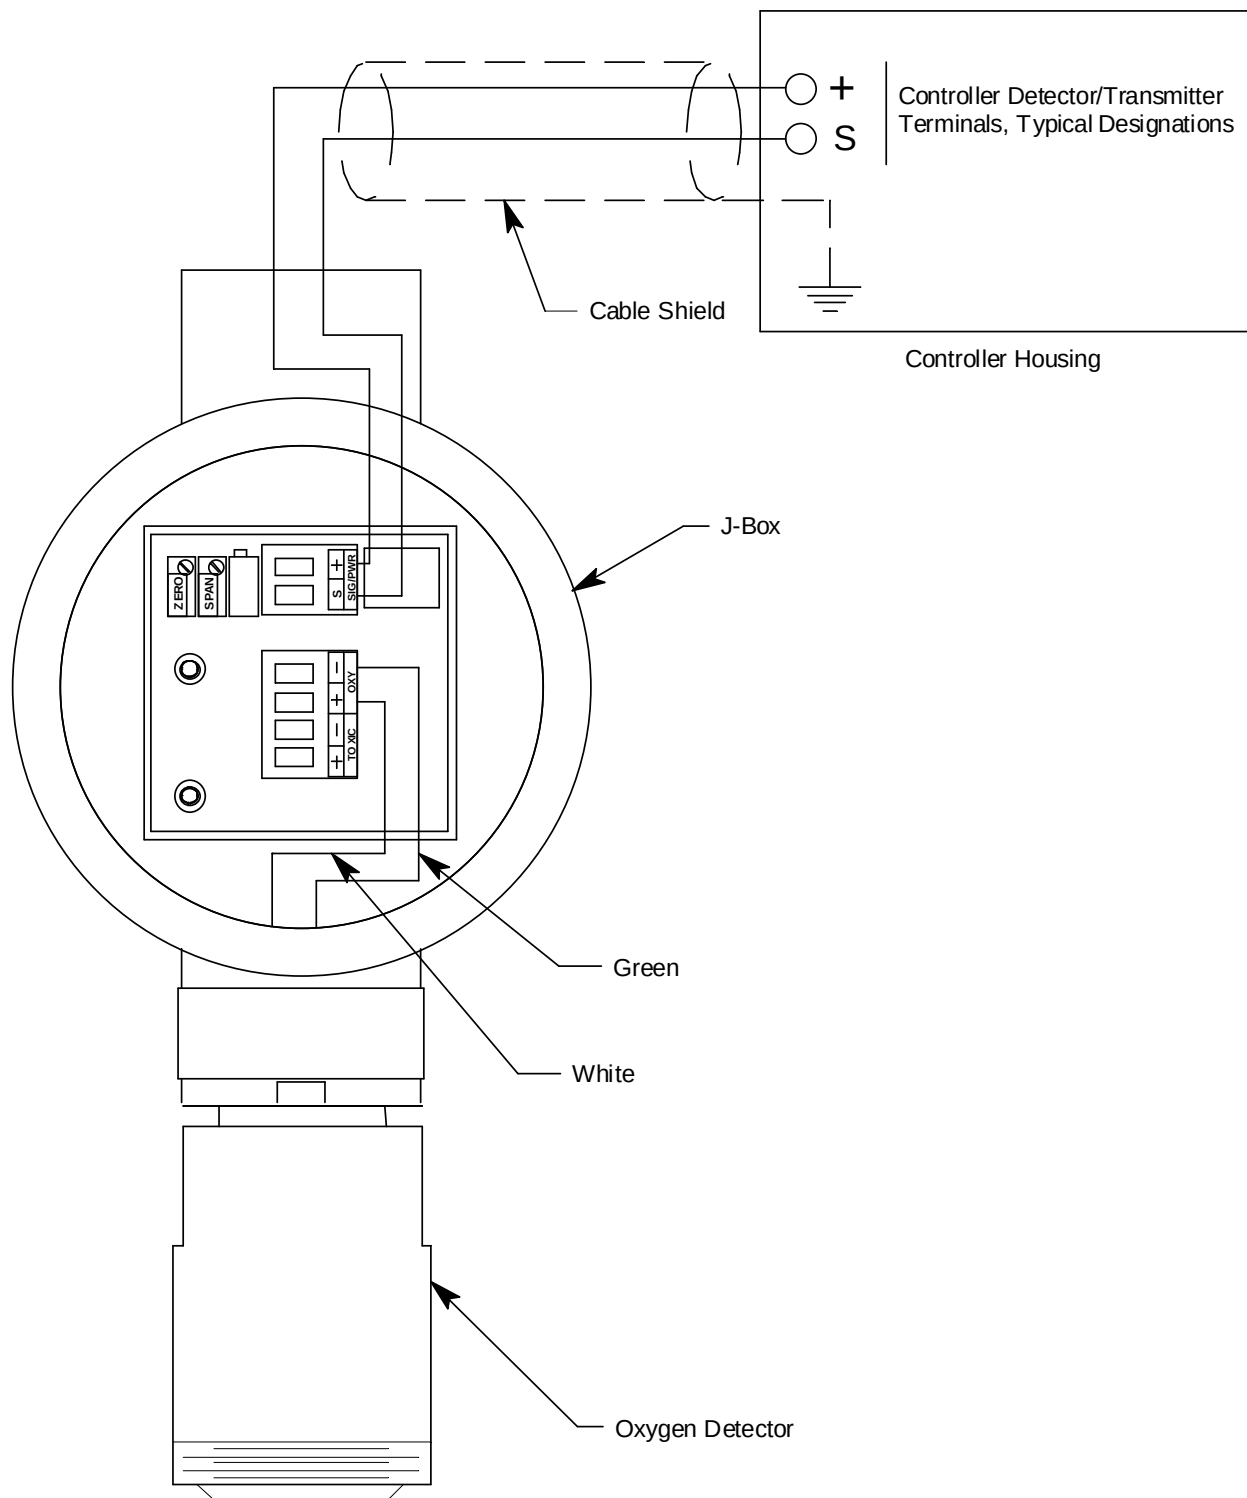

Figure 3: Wiring the Oxygen Transmitter to a Controller
4. The detector leads are factory wired. Verify that the detector leads are wired to the amplifier's detector terminal strip as shown in Figure 3.
7. Pull out the controller terminal strip, and connect the two wires to the terminal strip as follows (see Figure 3).
11. Connect the wires to the applicable detector / transmitter terminal strip at the controller as shown in Figure 3.
8. Connect the detector leads to the appropriate detector terminal strip terminals. Connect the white wire to the terminal labelled Oxy + and the green wire to the terminal labelled Oxy -. See Figure 3 on page 6 for the detector wiring connections to the amplifier.
8. Install the detector and controller terminals strips into their sockets on the new amplifier as shown in Figure 3 on page 6. If controller leads or detector leads were removed during this procedure, refer to Figure 3 on page 6 for the detector and amplifier connections.